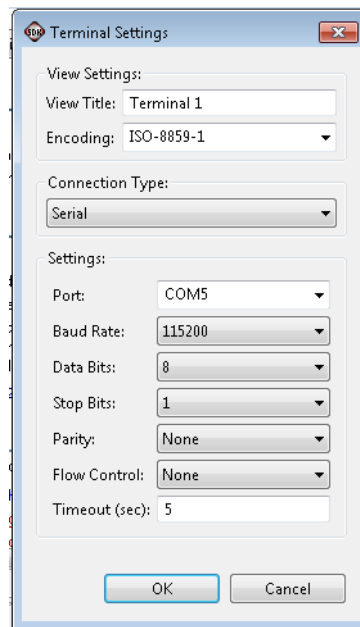

Figure 10-24: Terminal Settings
- d. Change the Baud Rate to 115200 (Figure 10-24).